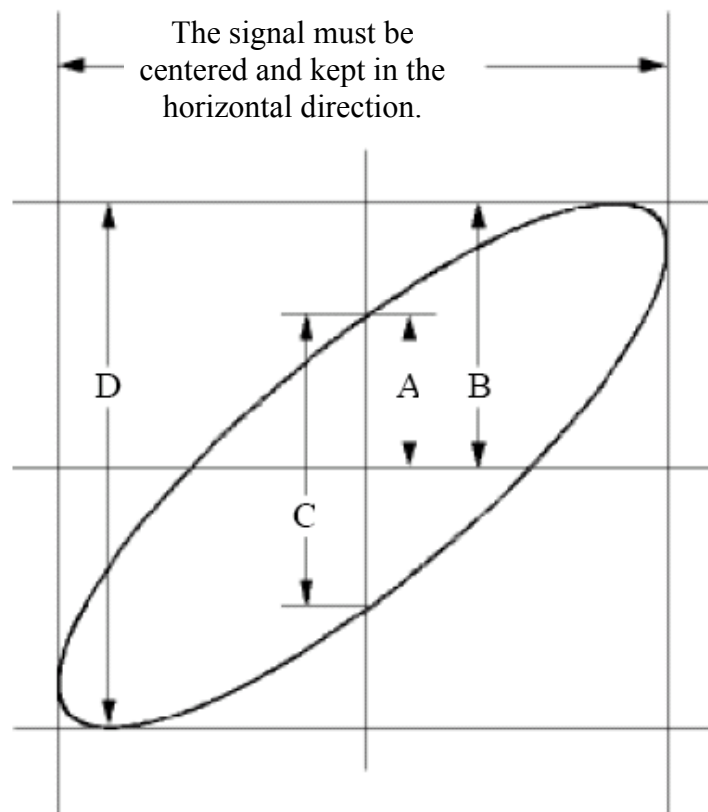

Fig. 62 Lissajous Graph
9. With the elliptical oscillogram method adopted, observe and calculate the phase difference (see Fig. 62).